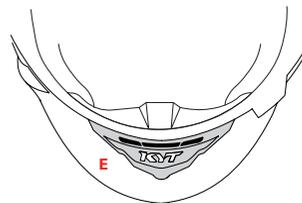

FIGURE 2
### FRONT AIR INTAKE CHIN — E — Figure 2/3
- Figure 2: air intake closed.